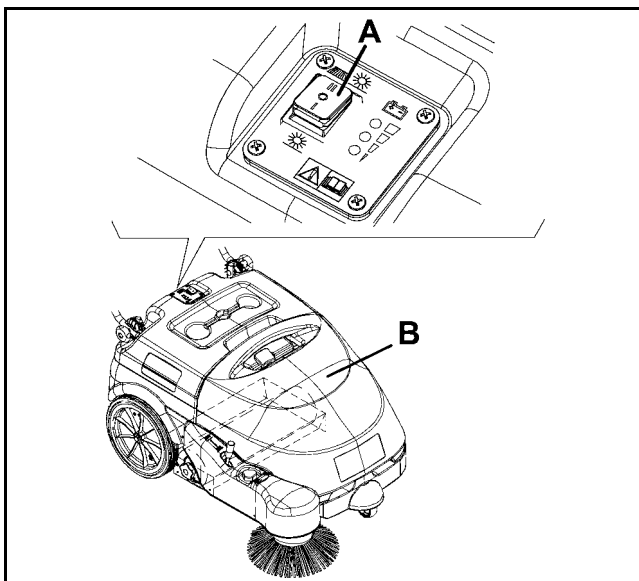

Figure 16
2. Turn the main switch (A, Fig. 16) to "0".
3. Remove the hopper (B, Fig. 16).